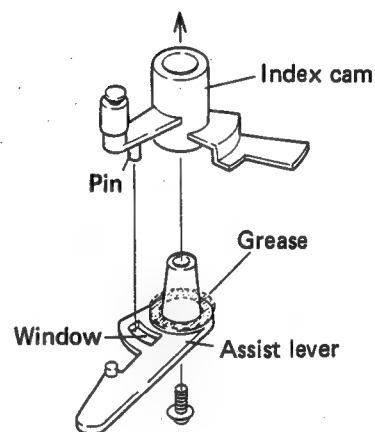

Fig. 1-28 Mounting the index cam 1
1. First apply grease (GP-574) to the assist lever, and then insert the lever so that the index pin is aligned with the assist lever window (see Fig. 1-28).